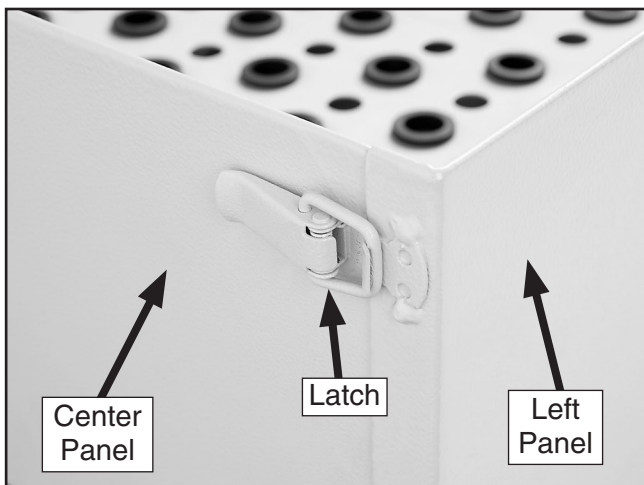

Figure 10. Panels secured with latches (one shown).
6. With the side panels in the upright position, slide the center panel brackets (**Figure 10**) over the side panels and secure with the latches.